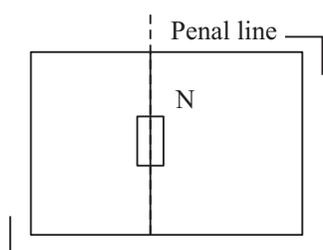
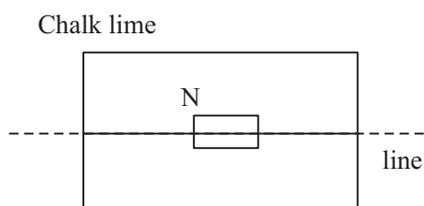

Fig. 28.3
Fig. 28.4
- (iii) Draw a line in pencil through the middle of paper along the short edge for performing the I part of experiment i.e. N-pole of magnet toward north- as shown in Fig. 28.3. For the II part of the experiment line will have to be drawn parallel to long edge as shown in Fig. 28.4.
- (vi) Place the drawing board such that the line on paper in pencil is parallel to the line drawn in chalk on the table, as shown in two cases in Figures 28.3 and 28.4.
- (i) After placing the magnet as shown in Fig. 28.3 mark the boundary of board in chalk, so that its position is not displaced during the experiment. If at all it accidentally gets displaced, it can be put back in its original position.
- (i) For drawing the magnetic field in this case and locating neutral points place the drawing board with pencil line on paper parallel to long edge of board, along the N-S line of earth, as shown in the Fig. 28.4.